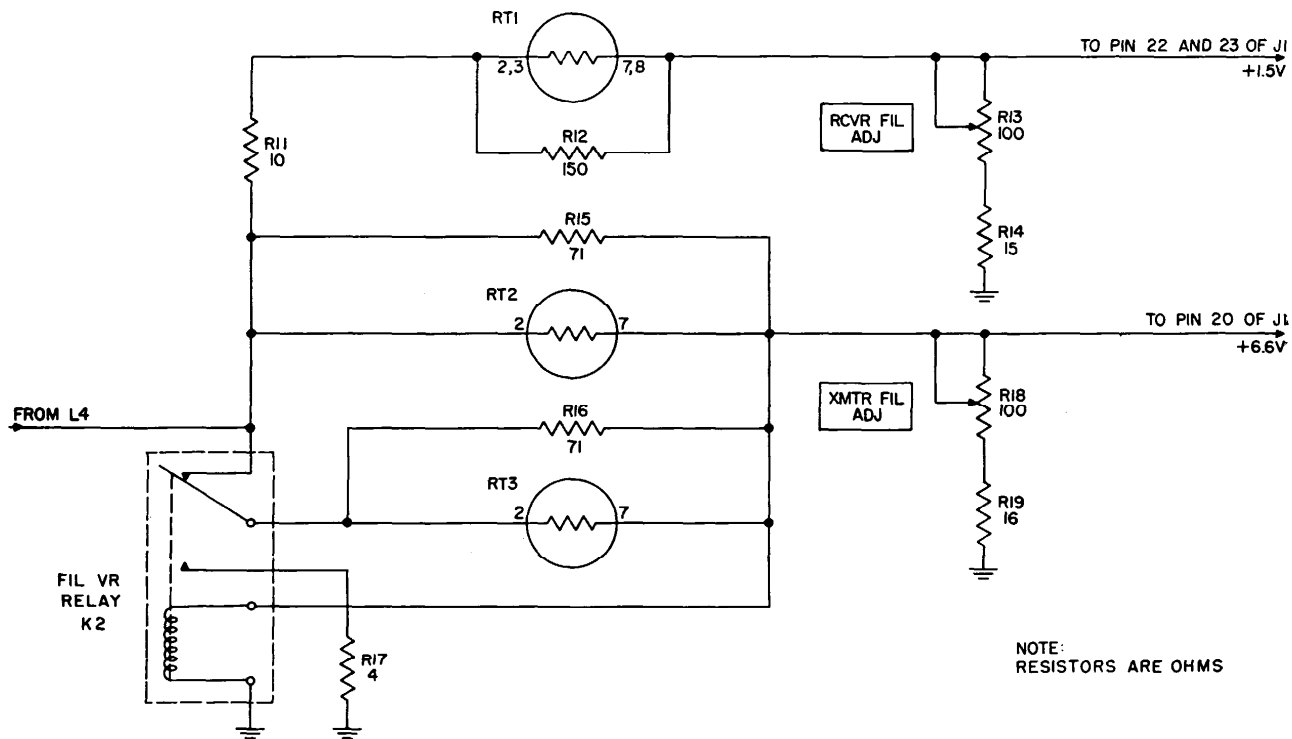

Figure 24. Power Supply PP-327A/GRC-9Y, current-regulator circuits.
(fig. 24)
a. A schematic diagram for the current-regulating circuit is shown in figure 24. The first of these circuits provides a voltage of 1.5 volts at a current of 500 ma. The regulating portion of the circuit is fed from the filter through voltage-dropping resistor R11. It consists of current-regulating resistor RT1, which is shunted by resistor R12. Current-regulating resistor RT1 changes its resist-